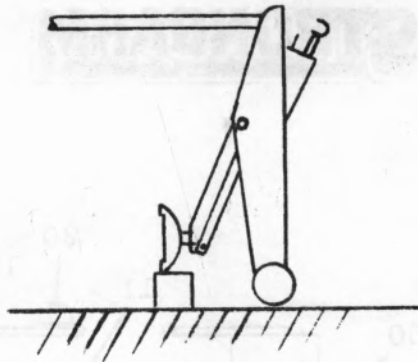

Fig. 3.
4. Oil Leaks at Pump Plunger (18): Position jack on end as shown in Fig. 3. Disassemble the unit partially as directed in Par. 1, allowing the hydraulic unit to pivot on ram crosshead to the position shown in Fig. 3. Unscrew plunger gland (17) and remove plunger (18). Remove plunger gland packing (16). Install new packing (16) very carefully, one unit at a time, slotted washer first — groove facing to bottom of hole. Replace and tighten plunger gland (17) very lightly, (finger tight). Plunger should slide in and out freely by hand. **DO NOT OVERTIGHTEN** as this destroys the sealing power of the packing and causes leaks.